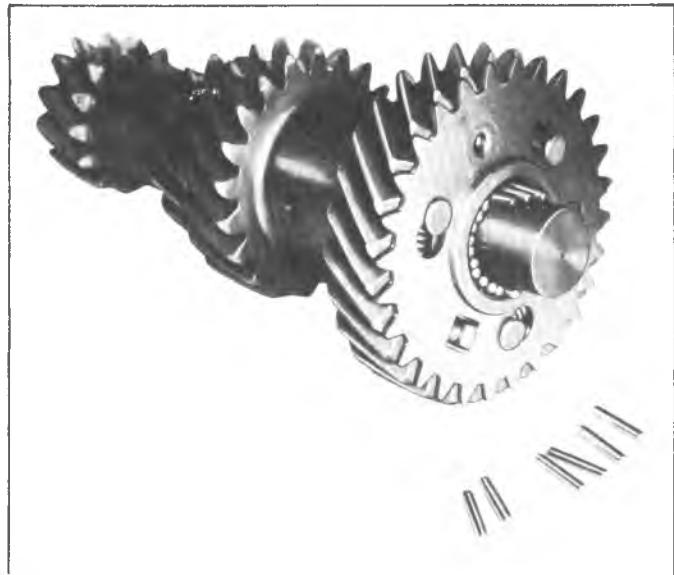

Fig. 6A--Loading Countergear Bearings w/Tool
Inspect the plate teeth for wear or other damage. The plate and two damper springs are retained to the countergear by three rivets. Disassembly is not recommended (fig. 6A).
1. Using Tool J-22246 load a row of roller bearings (27) and a bearing thrust washer at each end of the countergear. Use heavy grease to hold them in place (fig. 6A).